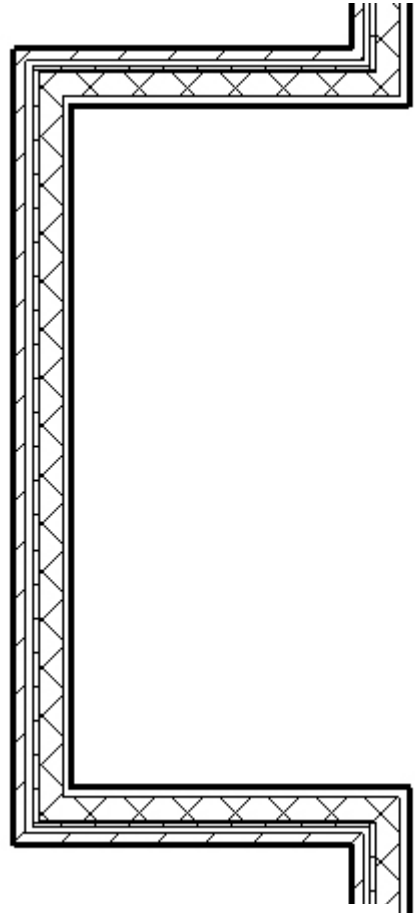

FIGURE 3-3.6 Trim tool
19. Select **Modify** → **Edit** → **Trim** to trim the corners so the exterior wall only occurs at exterior conditions (Figure 3-3.6).